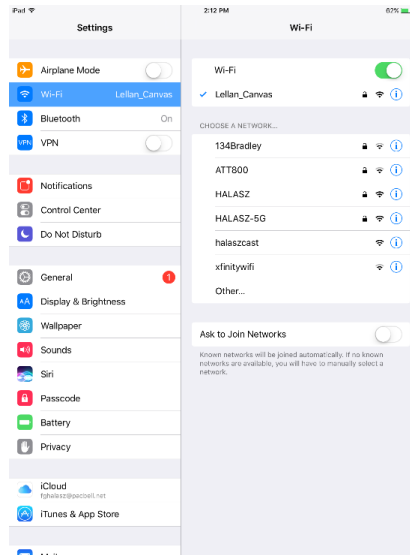

Figure 5-15: Successful connection to Lellan\_Canvas
- After the iPad successfully connects to the Lellan\_Canvas network, a checkmark will appear to the left of the Lellan\_Canvas entry, which has moved to the top of the column, and Lellan\_Canvas will appear next to the Wi-Fi entry in the left-hand column. (See Figure 5-15)